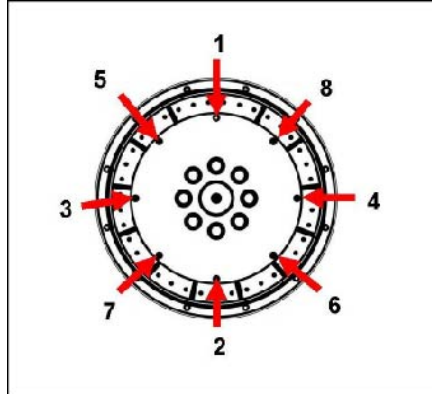

FIGURE 15. FIXING SEQUENCE
10. Tighten the bolts to fix the coupling disc to the flywheel, in the sequence shown in Figure 15 on page 25.